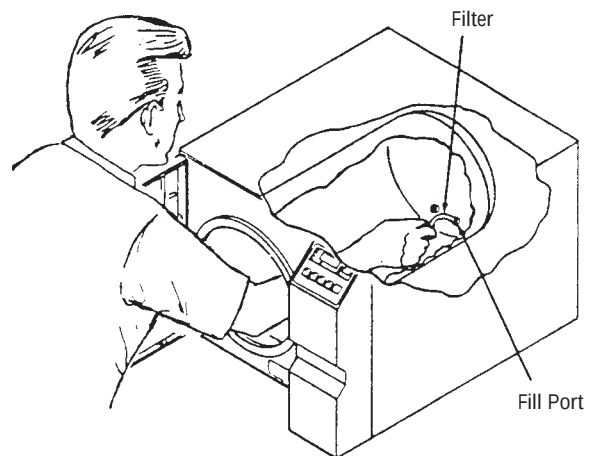

Figure 5-6
4. After changing/replacing filter, insert tube end of filter into the fill port (located on the bottom right portion of the chamber rear wall). After inserting, turn filter so the tip rests on the bottom of the chamber near the center line (see Figures 5-6 and 5-7).